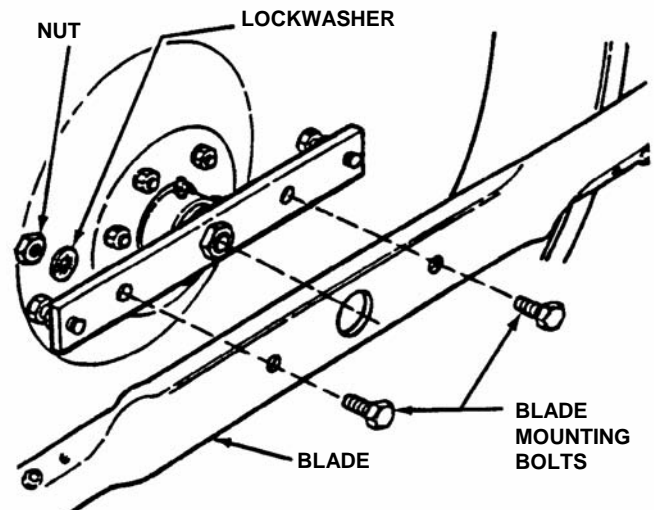

FIGURE 4.12
4. Remove blade. See Figure 4.12.
8. Reinstall blade. See Figure 4.12. Torque blade mounting bolts to recommended range of 30 to 40 ft. lbs.